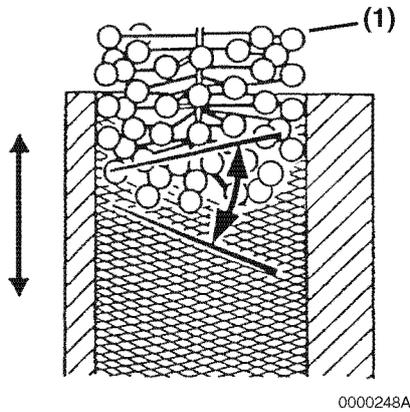

Figure 6-81
Note: When honing a cylinder, with either a ridged hone or a ball hone (**Figure 6-81, (1)**), move the rotating hone up and down in the cylinder bore to accomplish a 30° to 40° crosshatch pattern (**Figure 6-81**). This will provide the ideal surface for the proper seating of new piston rings.